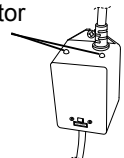

Figure 14.5g
18. Reinstall the black bulb boot (8) back over the quartz seal compression nut (7).
19. Reinstall the enclosure cover (10) with gasket (9) and secure with the screws.
22. Once power is activated you can check the ballast (12), Figure 14.5g, to see if the CLEARRAY System is functioning. A solid green light indicates that the CLEARRAY System is being provided power and should always be on. A solid red light indicates that UV bulb is activated.